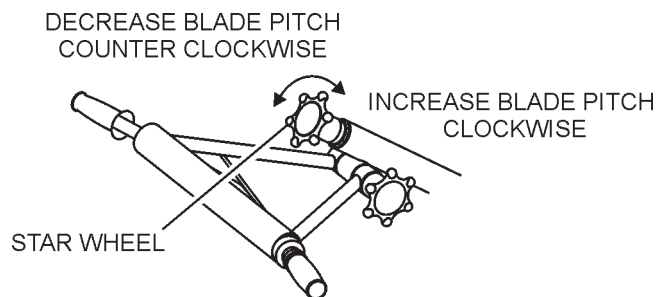

Figure 29. Standard Handle
1. To pitch the blades upwards using the "**Standard**" handle, (Figure 29) simply turn the **star-wheel** clockwise. Turning the star wheel counter clockwise will cause the blades to lay flat.